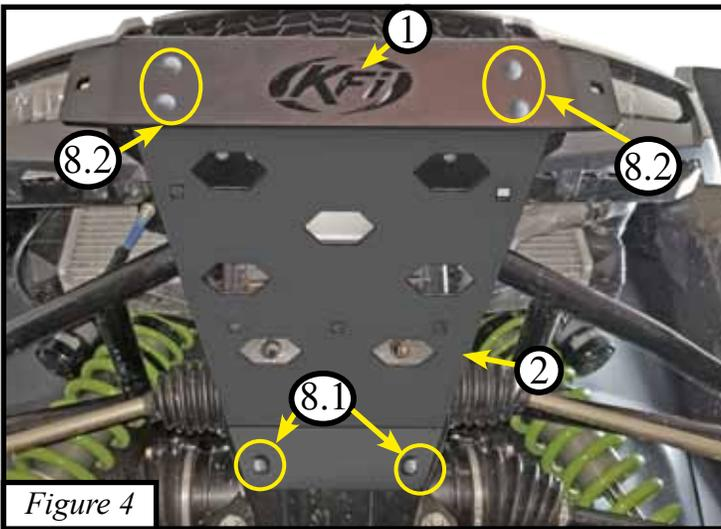

Figure 4
- Next install skid plate (2) using two M12 bolts (8.1) (use existing threaded holes in your machine) and using four 5/16" bolts and nuts (8.2 & 8.3) as shown in Figure 4. Tighten all hardware evenly.